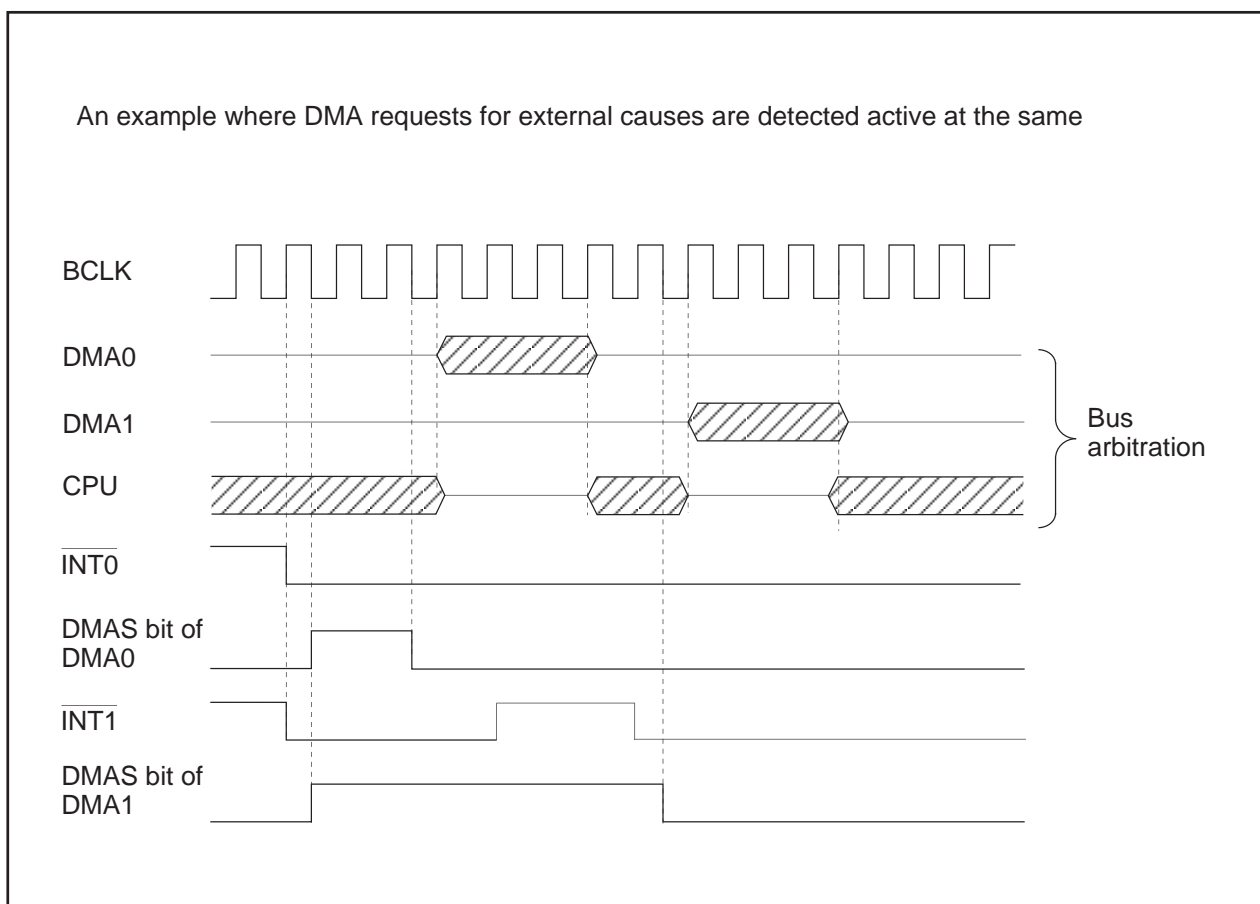

Figure 9.6. DMA Transfer by External Factors
If both DMA0 and DMA1 are enabled and DMA transfer request signals from DMA0 and DMA1 are detected active in the same sampling period (one period from a falling edge to the next falling edge of BCLK), the DMAS bit on each channel is set to "1" (DMA requested) at the same time. In this case, the DMA requests are arbitrated according to the channel priority, DMA0 > DMA1. The following describes DMAC operation when DMA0 and DMA1 requests are detected active in the same sampling period. Figure 9.6 shows an example of DMA transfer effected by external factors.
In addition, DMA requests cannot be counted up since each channel has one DMAS bit. Therefore, when DMA requests, as DMA1 in Figure 9.6, occurs more than one time, the DMAS bit is set to "0" as soon as getting the bus arbitration. The bus arbitration is returned to the CPU when one transfer is completed. Refer to "(7) HOLD Signal in Bus Control" for details about bus arbitration between the CPU and DMA.